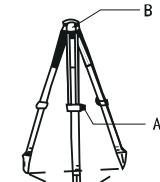

Fig.1
- (1) Adjust the tripod to horizontal level, tighten screw A.(Fig.1)